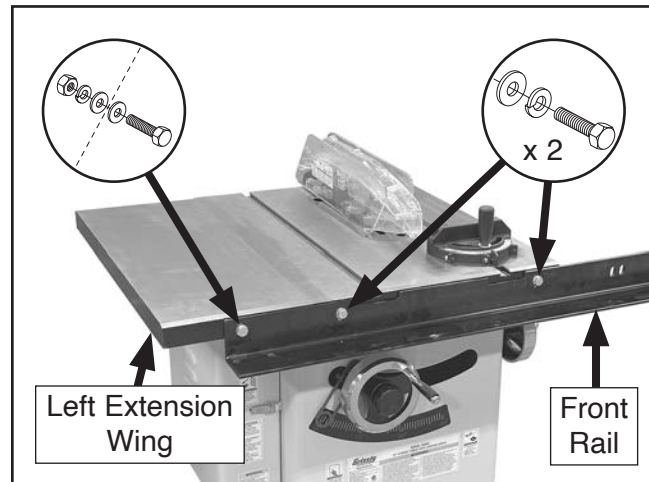

Figure 18. Long front rail attached to saw table and left extension wing.
2. Attach long front rail to saw table with (2) M10-1.5 x 25 hex bolts, 10mm lock washers, and 10mm flat washers from G0899 inventory (see **Figure 18**). Hand-tighten fasteners for now.
3. Attach long front rail to left extension wing with (1) M10-1.5 x 35 hex bolt, (2) 10mm flat washers, (1) 10mm lock washer, and (1) M10-1.5 hex nut from G0899 inventory (see **Figure 18**). Hand-tighten fasteners for now.